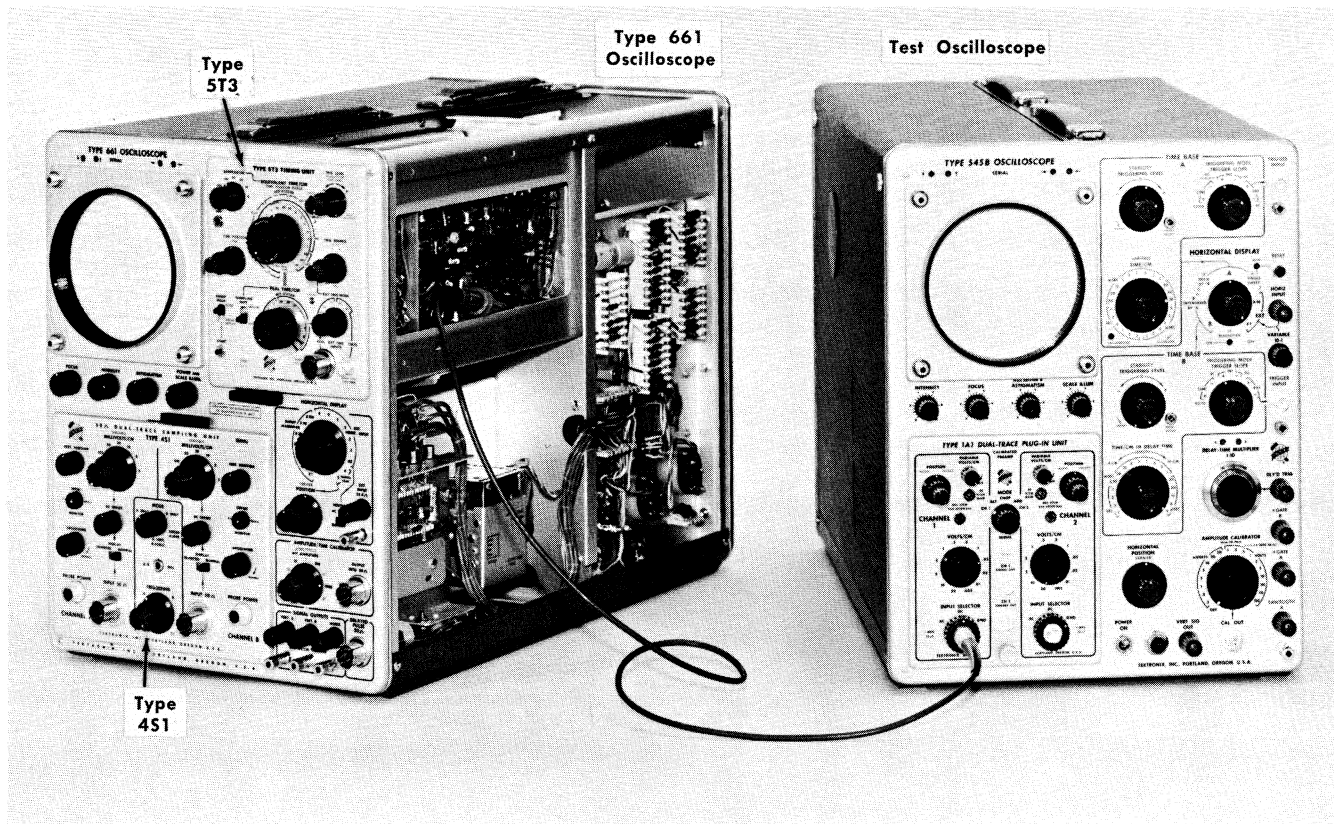

Fig. 5-8. Test equipment setup for steps 7 through 9.
- a. Test equipment setup is shown in Fig. 5-8.